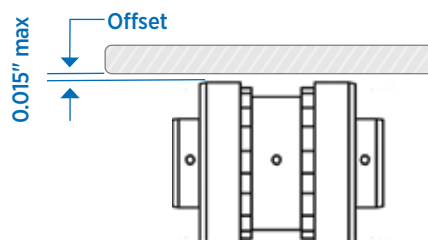
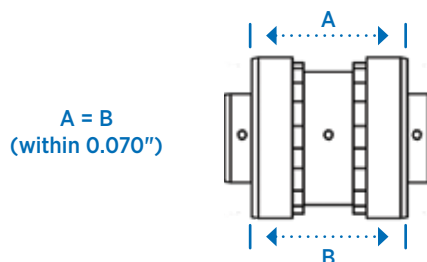

FIGURE 38: PARALLEL OFFSET
FIGURE 39: ANGULAR ALIGNMENT
12. Check parallel alignment. Place a straight-edge across the two coupling flanges, and measure the maximum offset at various points around the edge of the coupling angles without rotating the coupling flanges. If the maximum offset exceeds 0.015 inches, realign the shafts. *See figure 38.*
Check angular alignment with a micrometer, vernier, or caliper. Measure from the outside of one flange to the outside of the other at intervals around the edge of the coupling flanges. Determine the maximum and minimum dimensions **without rotating the flange couplings**. These measurements must be within 0.070 inches *See Figure 39*. If correction is necessary be sure to recheck the parallel alignment. *See Figure 38.*